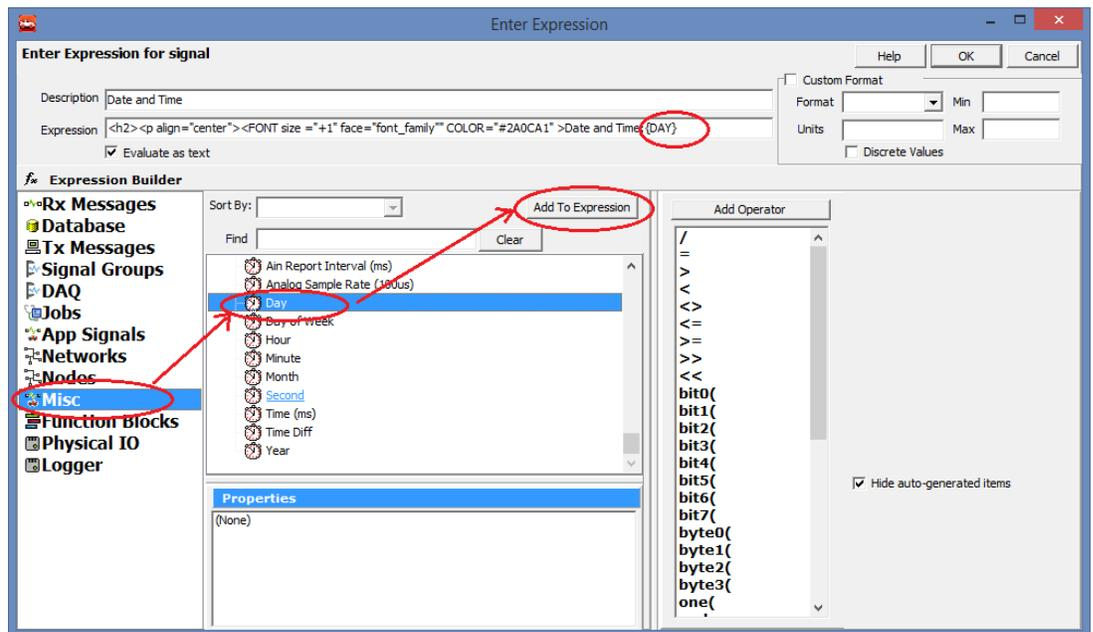

Figure 6: Access Misc signal in Expression
- Set heading 2 as date and time. Use Vehicle spy available Misc signals i.e. Day, Month, Year, Hours, Minute and Second. To access this signal in Expression field, select 'Misc' option from expression builder, select signal from available list and press 'Add To Expression' button to add signal in expression field (Figure 6).